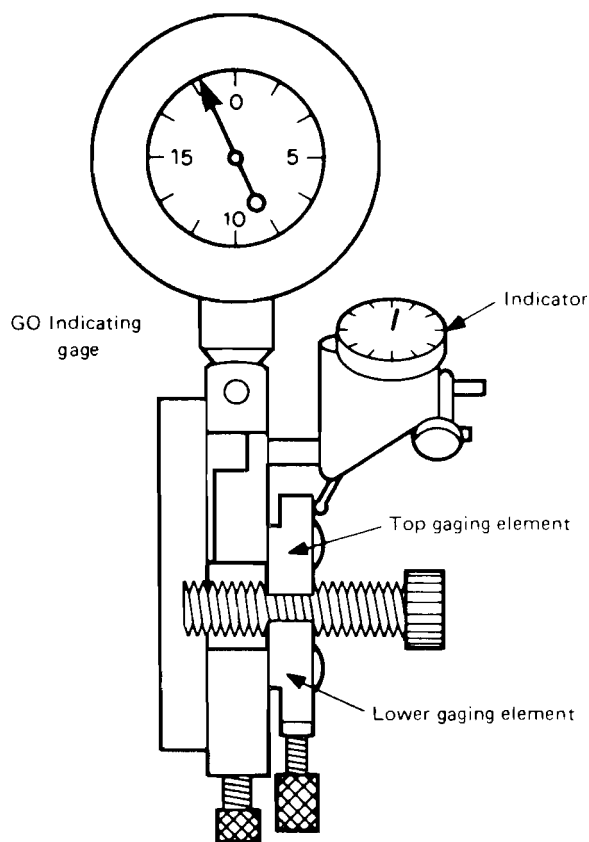

FIG. 35 INDICATING GAGES — HELICAL PATH ATTACHMENT USED WITH GO TYPE INDICATING GAGE
5.22.1 Purpose and Use. To observe the presence of helical path variation with a GO type indicating gage, Fig. 35, the following procedure is used: